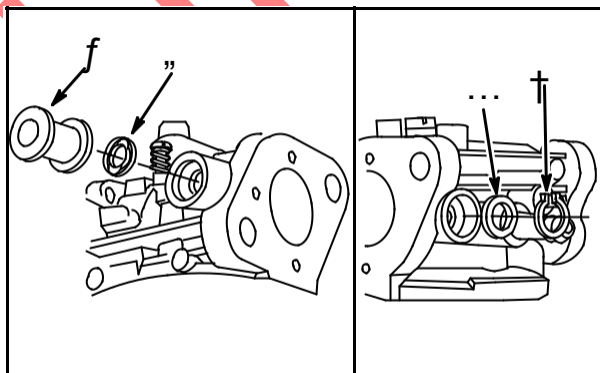

Fig. 34
Assemble new throttle shaft seal (4) with sealing lip out, **Fig. 34**.